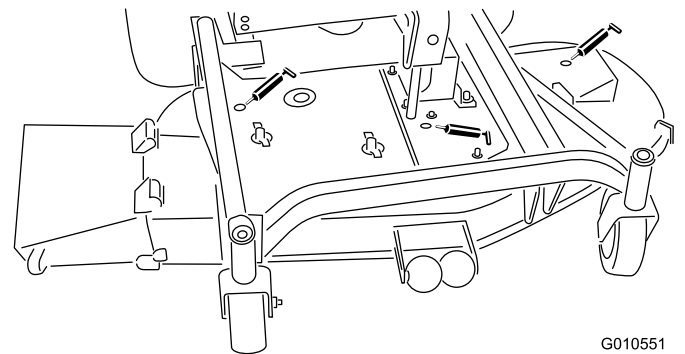

Figure 15
- blade spindle bearings (Figure 15)